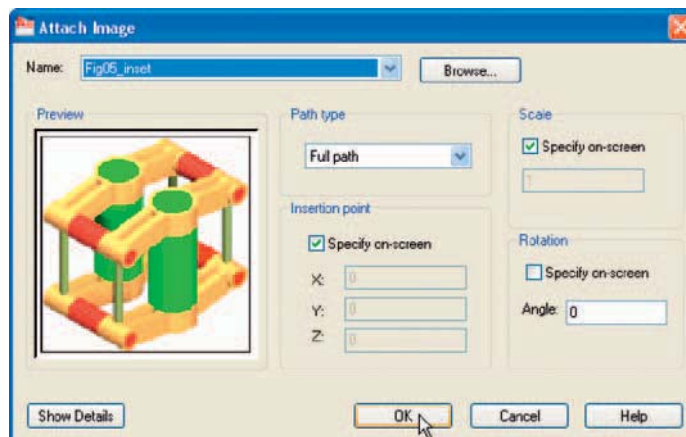

Fig. 10.10 The Attach Image dialog
2. Click the **Open** button of the dialog. The **Attach Image** dialog appears (Fig. 10.10) showing a preview of the bitmap image.